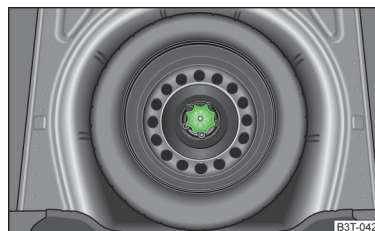

Fig. 171
The spare or temporary spare wheel is located in a well under the floor covering in the boot and is fixed in place with a special bolt » Fig. 171.
- › Unscrew the nut » Fig. 171 anticlockwise.
- › Screw on the nut » Fig. 171 clockwise until the wheel is safely secured.